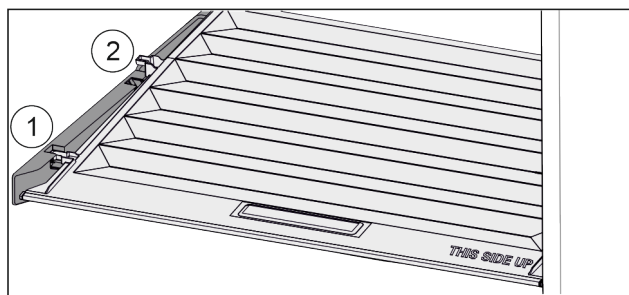

Fig. 26
- Pull the lid up at the front to the opening in the retaining parts Fig. 26 (1).
- Lift from the back and pull it up and out Fig. 26 (2).